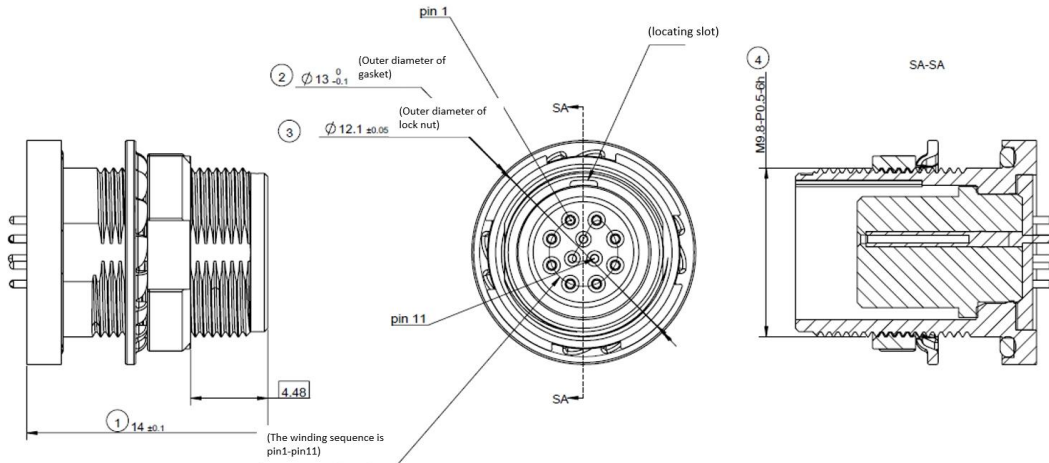

Figure 9 Aviation Plug Interface Pin Numbers
- 1) The GPS\_REC interface specification on the Airy power box is SM2.54 male connector, the pin definitions are shown in Figure 9 ;
The cable aviation plug on the Airy LiDAR side is shown in Figure 9 .